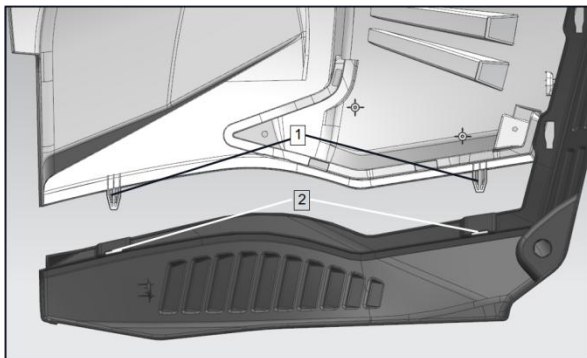

Fig. 32
1. Lock the panel into the groove (Pos. 2, Fig. 32) with a hook (Pos. 1, Fig. 32).